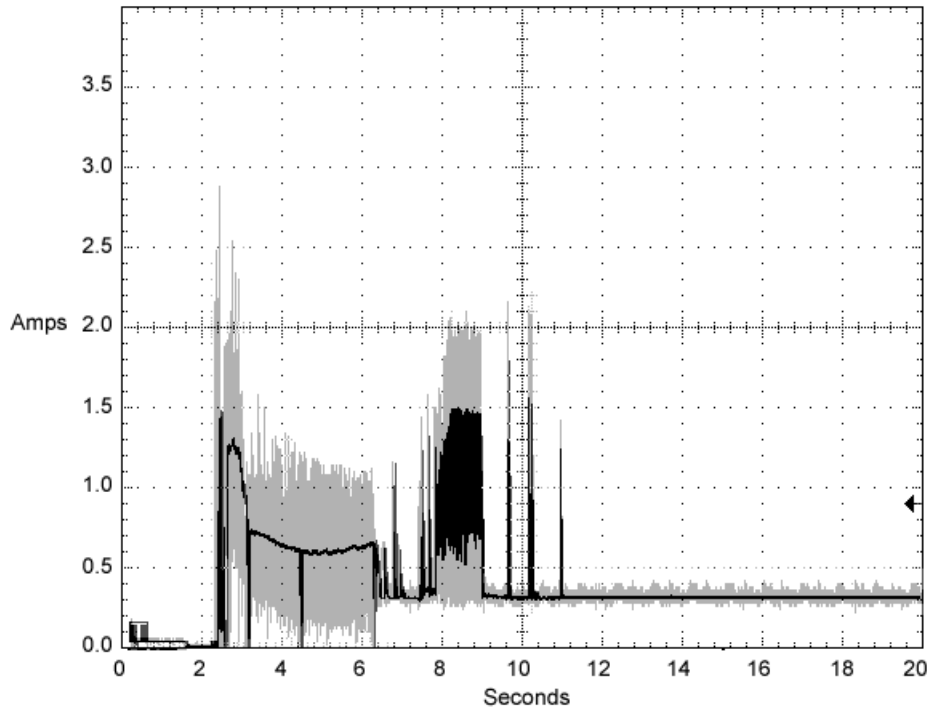
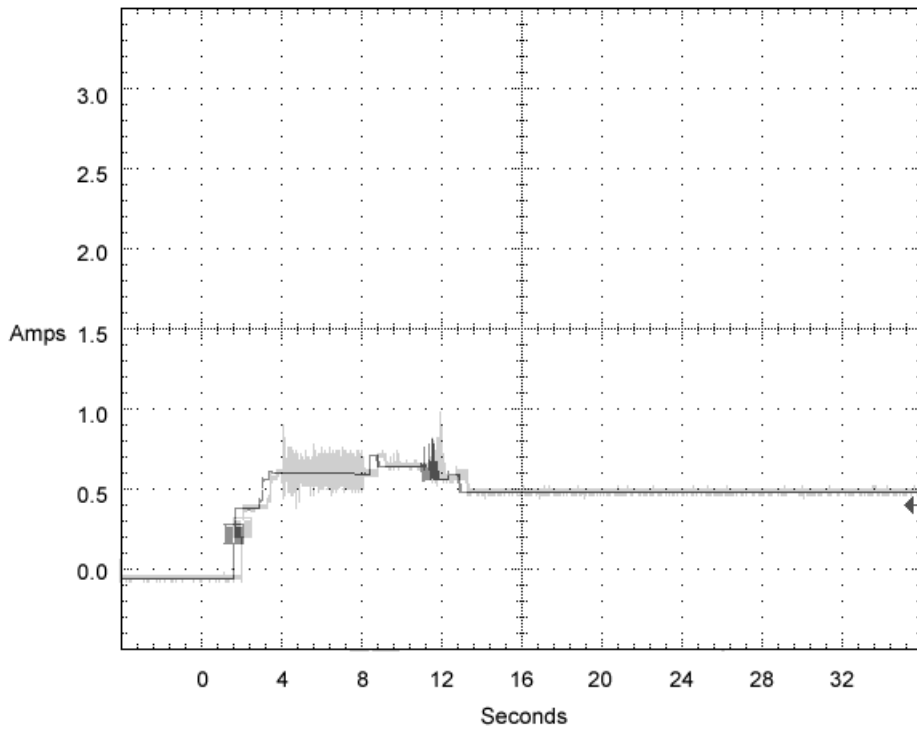

Figure 2. Typical ST336807 drive +12 V current profile
Figure 3. Typical ST336807 drive +5 V current profile
- [3] See +12 V current profile in Figure 2.
Figure 2 identifies the drive's +12 V current profile and figure 3 identifies the drive's +5 V current profile. The current during the various times is as shown: